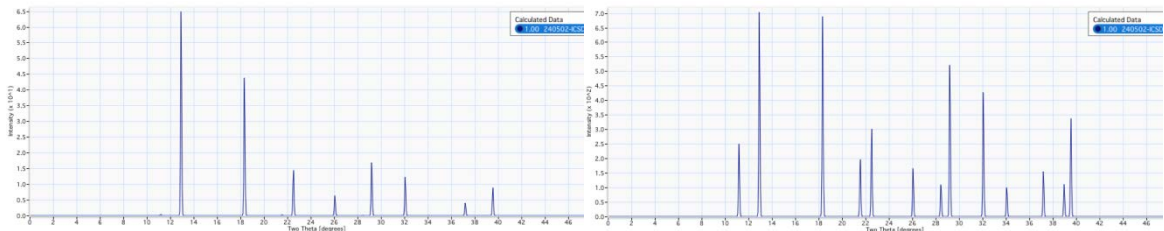

Figure 7: Powder diffraction patterns of KCl measured with neutrons and x-rays.
- 4) Fig. 7 shows two powder scans for KCl, one of which was measured with x-rays and the other with neutrons of the same wavelength. Which plot was measured with x-rays and which one with neutrons? Describe and explain the differences.